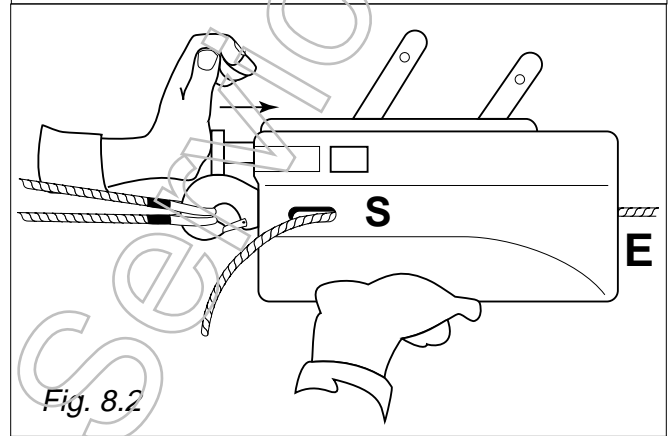

Fig. 8.2
3. Insert the tapered end of the wire rope through the rope guide E and push it through the mechanism until it emerges at S (Fig. 8.2).
Closing : Push the rope release catch towards the machine until it locks in position. (Fig. 8.2).